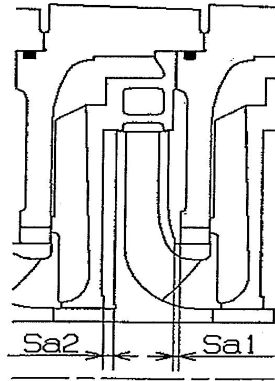

Fig.10 Total Axial Play
2. Insert key (9400.2) and packing sleeve (5240) with O-ring (4120.3)
3. Insert key (9400.3) for 1st stage impeller, slip 1st impeller (2300) onto the counter-drive end of the shaft (2100).
8. After mounting each stage check the overall axial clearance $Sa1+Sa2$ (6.5 mm) of the impeller. (Fig.10)